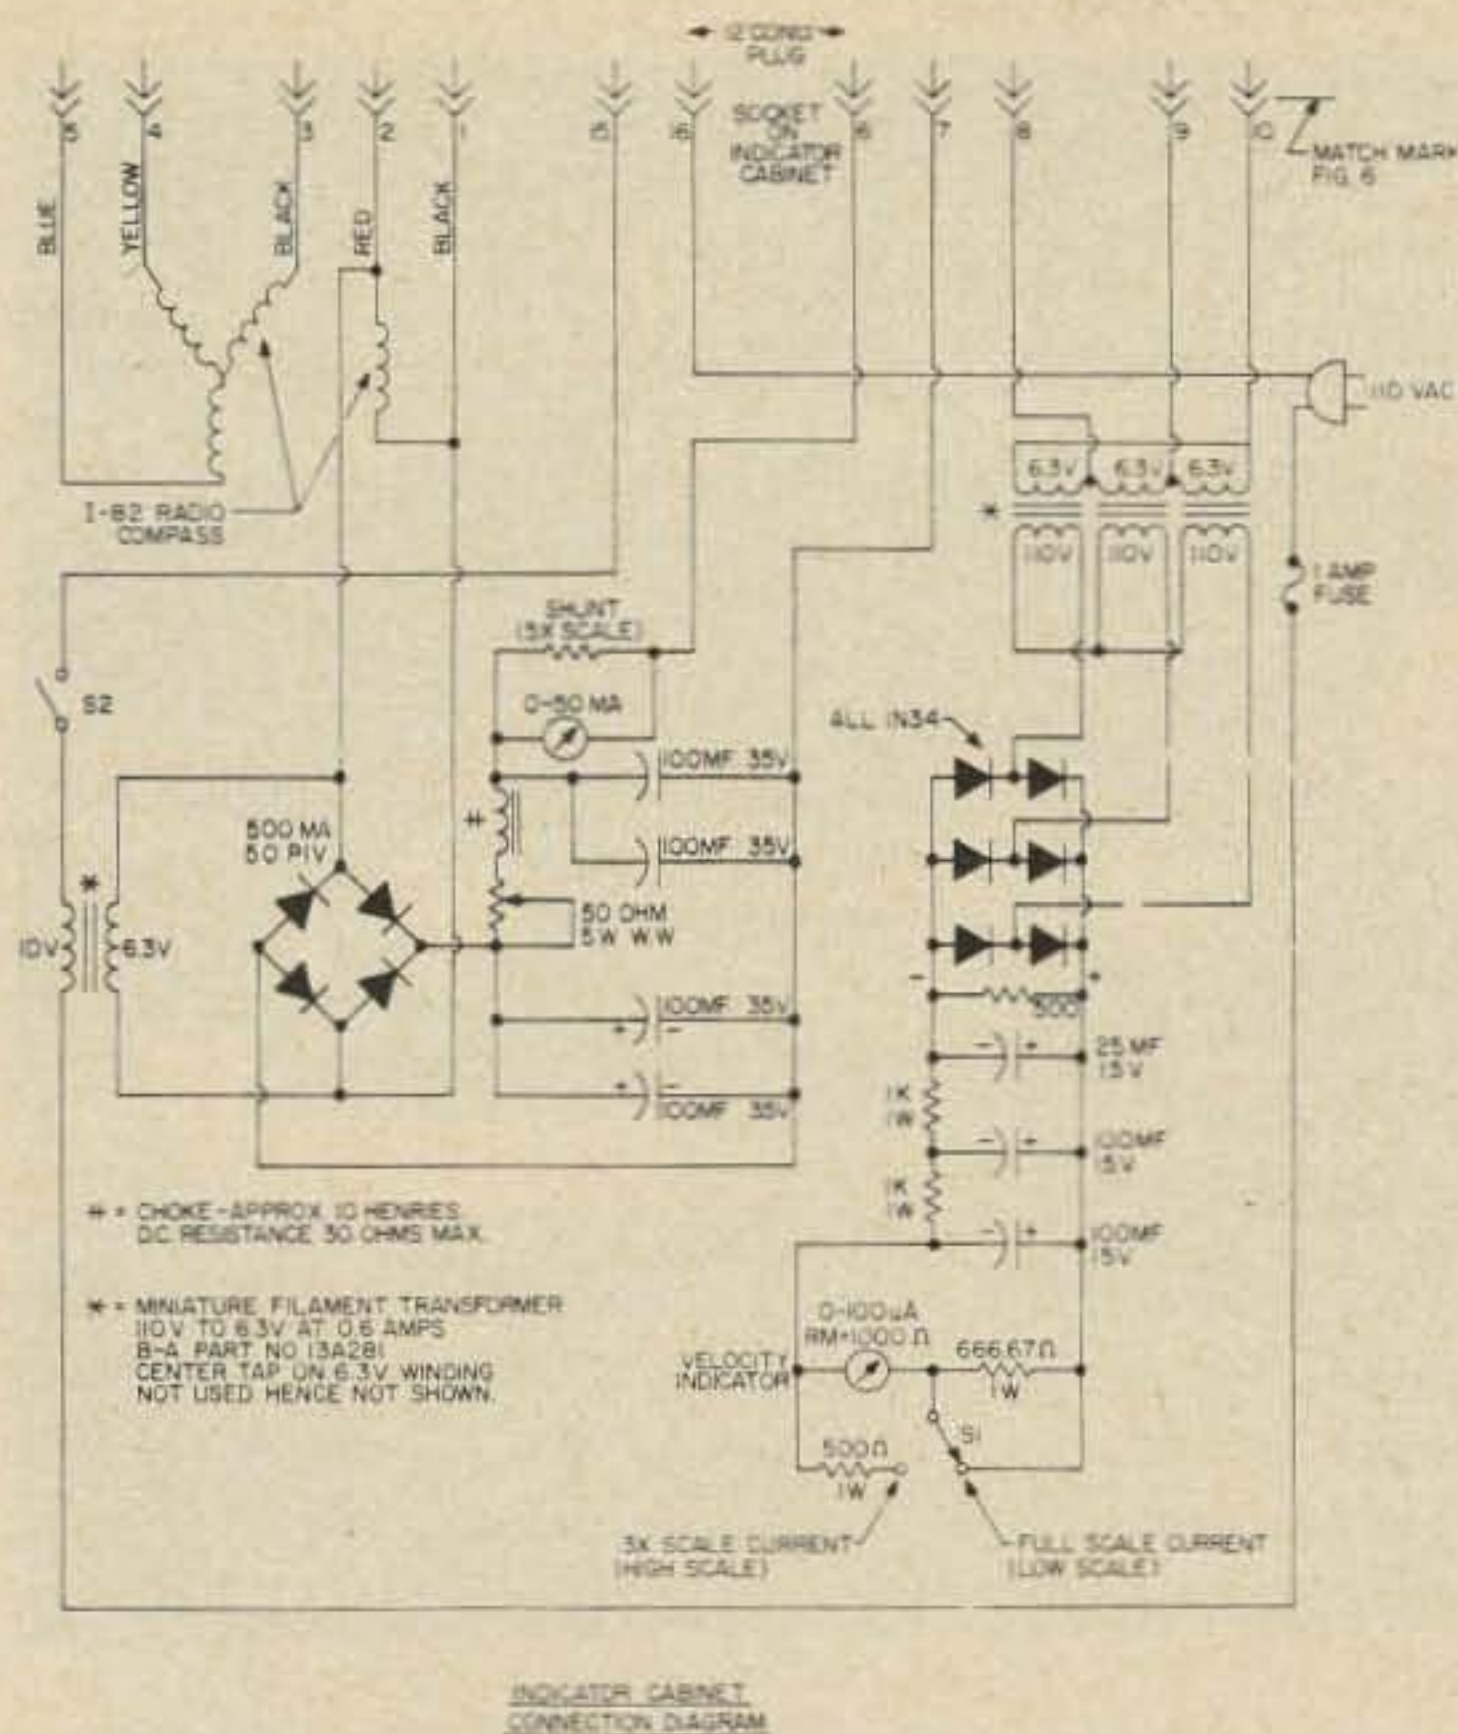

Fig. 10. Indicator cabinet connection diagram.
Figure 1 shows the exterior details of the indicator cabinet. Figure 10 shows the diagram of connections. The wind direction indicator is a surplus I-82 radio compass. In order to permit placing the radio compass in the cabinet, it is necessary to remove and disconnect the socket on the rear of the instrument and remove the sheet metal cover over the selsyn proper. In Fig. 1 the wind direction indicator is the large indicator at the lower center of the panel. The wind velocity indicator is a Weston Model 506, 0-100 mA dc meter. It has an internal resistance of 1000Ω and has a new scale showing miles per hour in accordance with calibration data shown in Fig. 11. The wind velocity indicator is located on the panel to
Arrangement of components within the indicator cabinet is left to the individual. All components shown in Fig. 10 can be placed within the cabinet shown, but it does "take a bit of doing." You might want a larger cabinet.
As can be seen in Fig. 10, four 6.3 volt to
d. The connection diagram and all values shown in Fig. 10 for the wind velocity indicator are duplicated.
24" mobile antenna base extension and screwing the extension into the antenna mount on the car turtleback. This will place the wind velocity transmitter above the level of the roof of the car. Run a five conductor cable from the wind velocity transmitter through the rear window of the car to the corresponding terminals on the indicator cabinet which should be on the front seat. In the indicator cabinet, disconnect the dc leads from the bridge rectifier (500 mA 50 PIV diodes). Bring these leads out of the cabinet and connect a 50Ω rheostat in series with one lead to provide adjustment of the field direct current. The direct current to excite the field of the wind velocity transmitter is obtained from the car storage battery and this voltage (12V dc) is conveniently available at the cigarette lighter. When calibrating the wind velocity transmitter, it is important that the field current be exactly 100 mA. Adjustment of the field current to 100 mA is easily accomplished by adjusting the 50Ω rheostat referred to and which, incidentally, is additional to the one in the indicator cabinet and shown by Fig. 10.